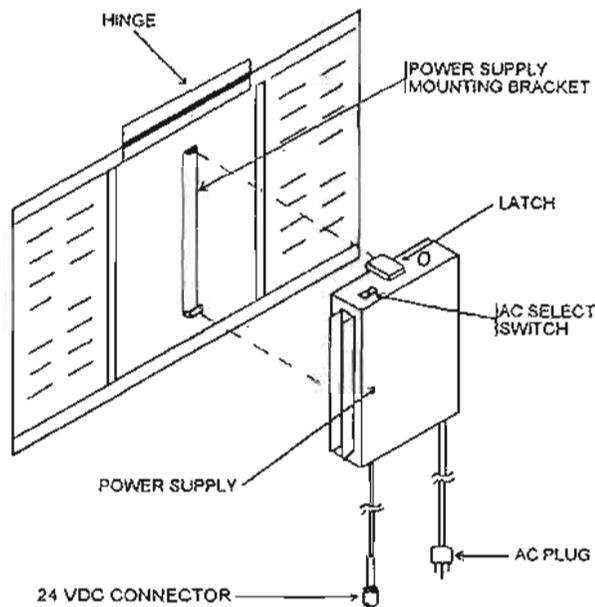

Figure 1-5. Power supply.
(2) *Power supply (fig 1-5).* Alternating current (AC) voltages are provided by the power supply.